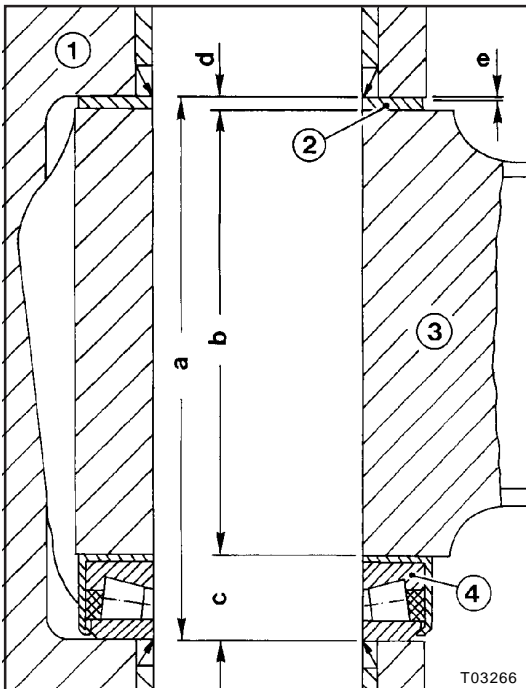

Figure 21: To check axial clearance
1. Check the axial clearance, to select the appropriate shim washer thickness, as follows (see figure 21):
1. King-pin drift of figure 21
3. Guide pin of figure 21